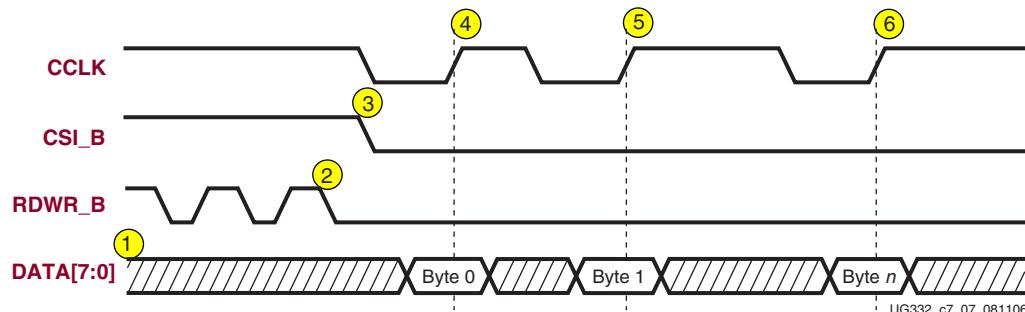

Figure 7-7: Non-Continuous SelectMAP Data Loading with Controlled CCLK
2. Pause **CCLK**, shown in Figure 7-7 and described in “Pausing CCLK,” page 186.
The following numbered items correspond to the markers provided in Figure 7-7.